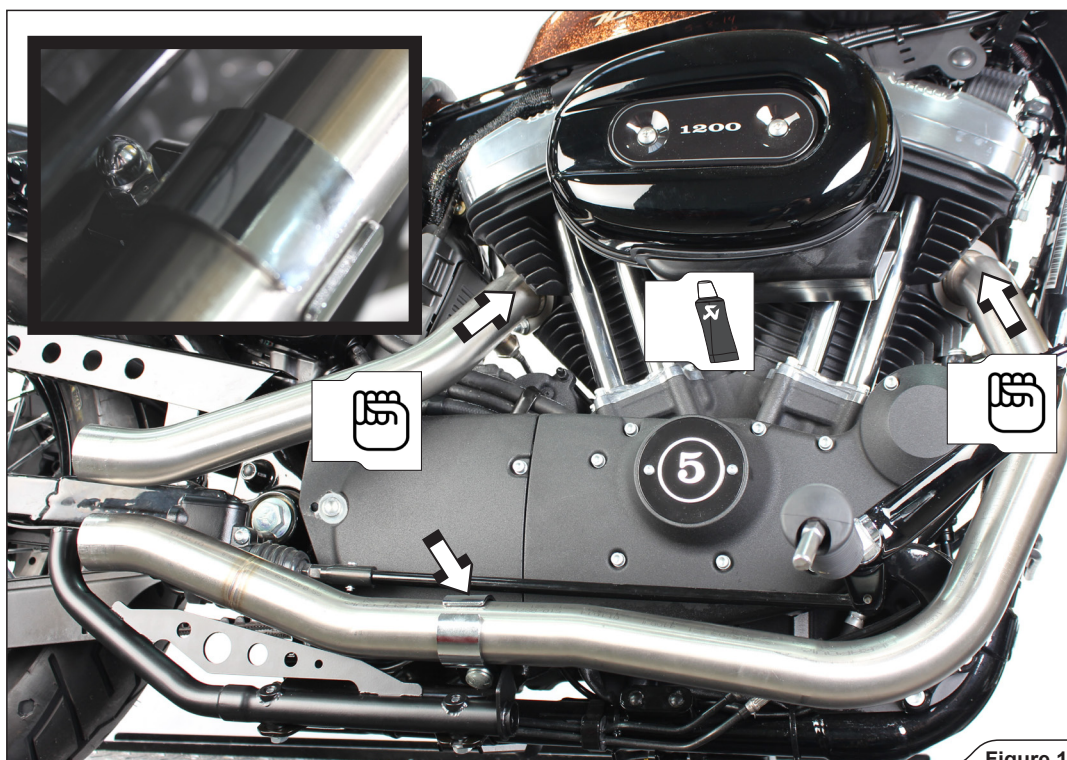

Figure 10
4. Hand tighten the headers onto the motorcycle, using original exhaust port nuts, washer and clamp bolt with nut (Figure 10).